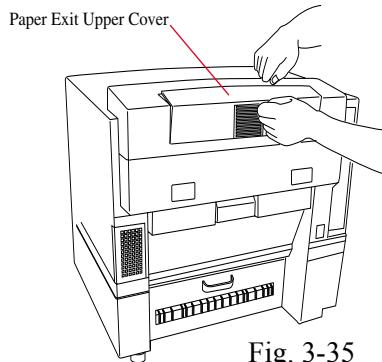

Fig. 3-35
1. Remove the paper exit upper cover (see Fig. 3-35).